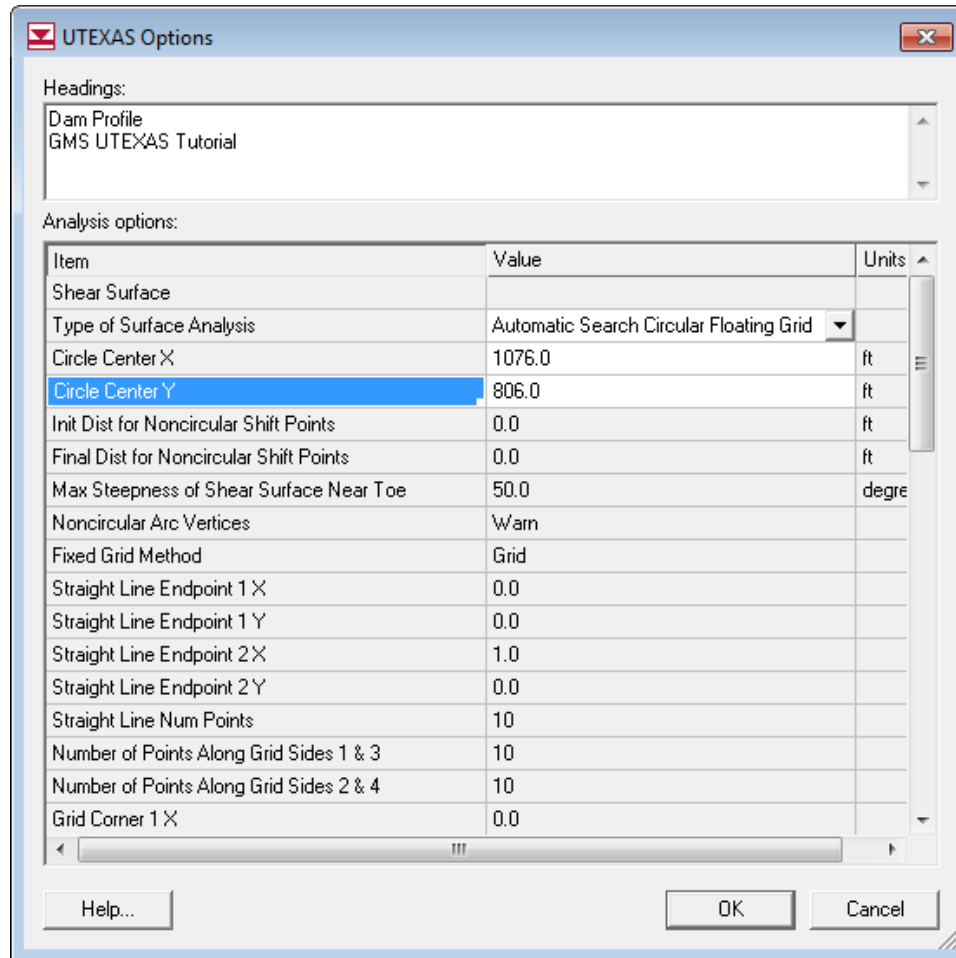

Figure 12. UTEXAS Analysis Options – Part I.
- Change the *Analysis Options* to match those shown in Figure 12 and 13 below.